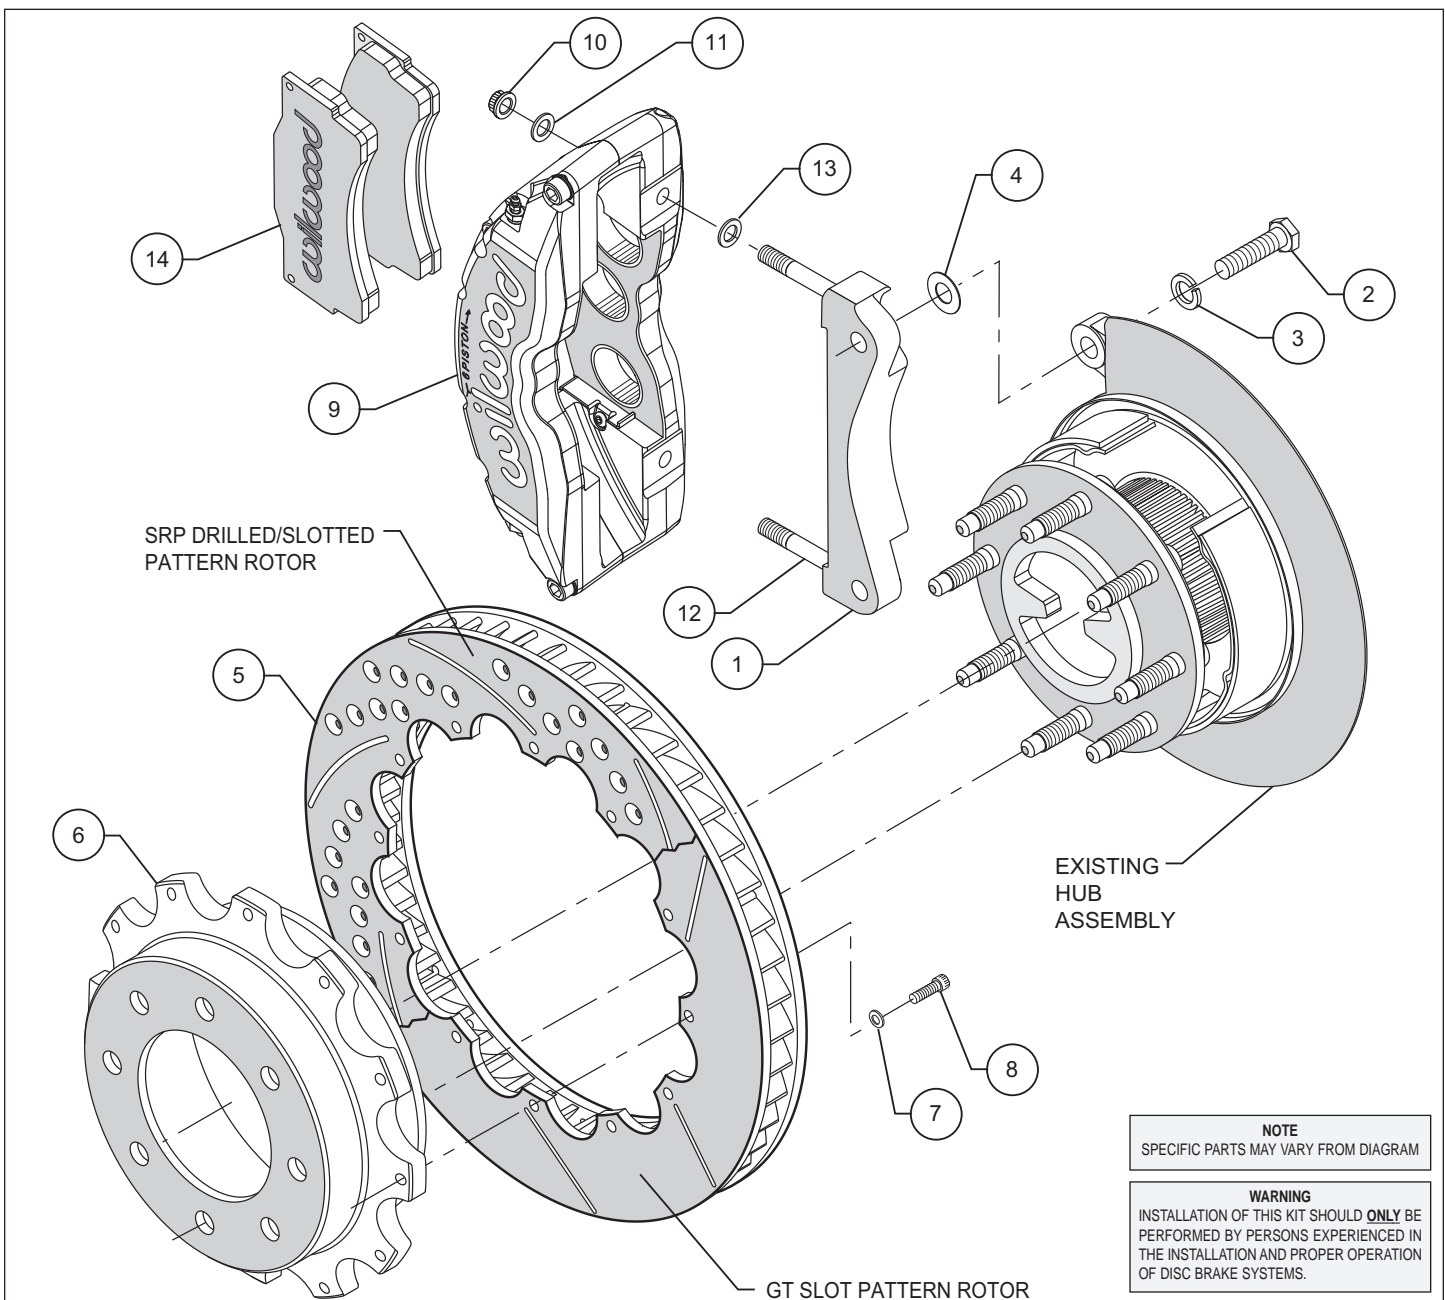
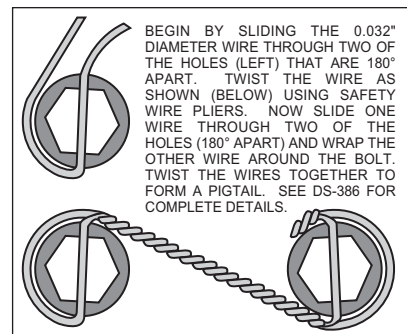

Figure 1. Typical Installation Configuration
Figure 3. Safety Wire Diagram
- The caliper mount bracket assembly (1) should be installed first with clean, dry threads on the mounting bolts (2). Install the bracket by sliding bolt (2) through lock washer (3) from the rear side of the hub through the OEM caliper mounting bracket ears, then through shim washer (4) and into the bracket (1). The bracket must tighten squarely against the outboard side of the caliper mount bosses on the upright. Inspect for interference from casting irregularities, machining ridges, burrs, etc. Use one thin shim (4) between the bracket and upright during initial trial fitting. Later, after the caliper, pad, and rotor alignment have been checked, and any necessary shims have been put in place, the mounting bolt threads (2) should be coated with red *Loctite*® 271 and torqued to 95 ft-lbs.
- Assemble the rotor (5) to the hat (6) with the bolts (8) and washers (7) as indicated in the configuration pictured in Figure 1. Be sure all bolts thread in smoothly and are snug. Then, torque all bolts in an alternating sequence to 198 **in-lbs**. The rotor mounting bolts (8) must be lockwired using standard 0.032 inch diameter stainless steel safety wire as shown in Figure 3. Please refer to Wilwood's data sheet DS-386 (available at www.wilwood.org/ds386.pdf) for complete safety wire installation instructions.
- Lubricate caliper mounting studs and nuts with lightweight oil. Install one shim (13) over each stud (12) on the radial mount bracket (1). Slide the caliper (9) in place over the studs and rotor and install the washers (11) [up to 4 may be required on each side to keep the lock nut from bottoming out on the stud], and lock nut (10) to hold the caliper in place. The caliper bleed screws should be pointing up. Snug the lock nuts (10) and check that the rotor (5) is centered in the caliper (9). Add or subtract .029" shims (4) as necessary between the caliper mount bracket and the caliper mount bosses on the upright assembly to center the caliper.
- Remove the two caliper center bridge pad retainer bolts, nuts, and tubes from the caliper. Slide the brake pads (14) into place. They should install easily without interference. Check that the outside radius of the brake pad is aligned with the outside diameter radius of the rotor face. Add or subtract shims (13) between the caliper and mount bracket to gain the proper alignment. Reinstall the two center bridge pad retainer tubes, bolts, and lock nuts. The locknut should be snug without play in the bolt or tube. Be cautious not to over tighten.
- Once all clearances have been checked, remove the wheel, caliper and rotor from the axle flange. Secure the caliper mounting bracket (1) to the axle flange body with bolts (2) while coating the threads with red *Loctite*® 271. Torque the bolts to 95 ft-lbs. Reinstall the rotor and again use several lug nuts to hold it in place. Reinstall the caliper, torque the caliper nuts (10) to 30-35 ft-lbs.